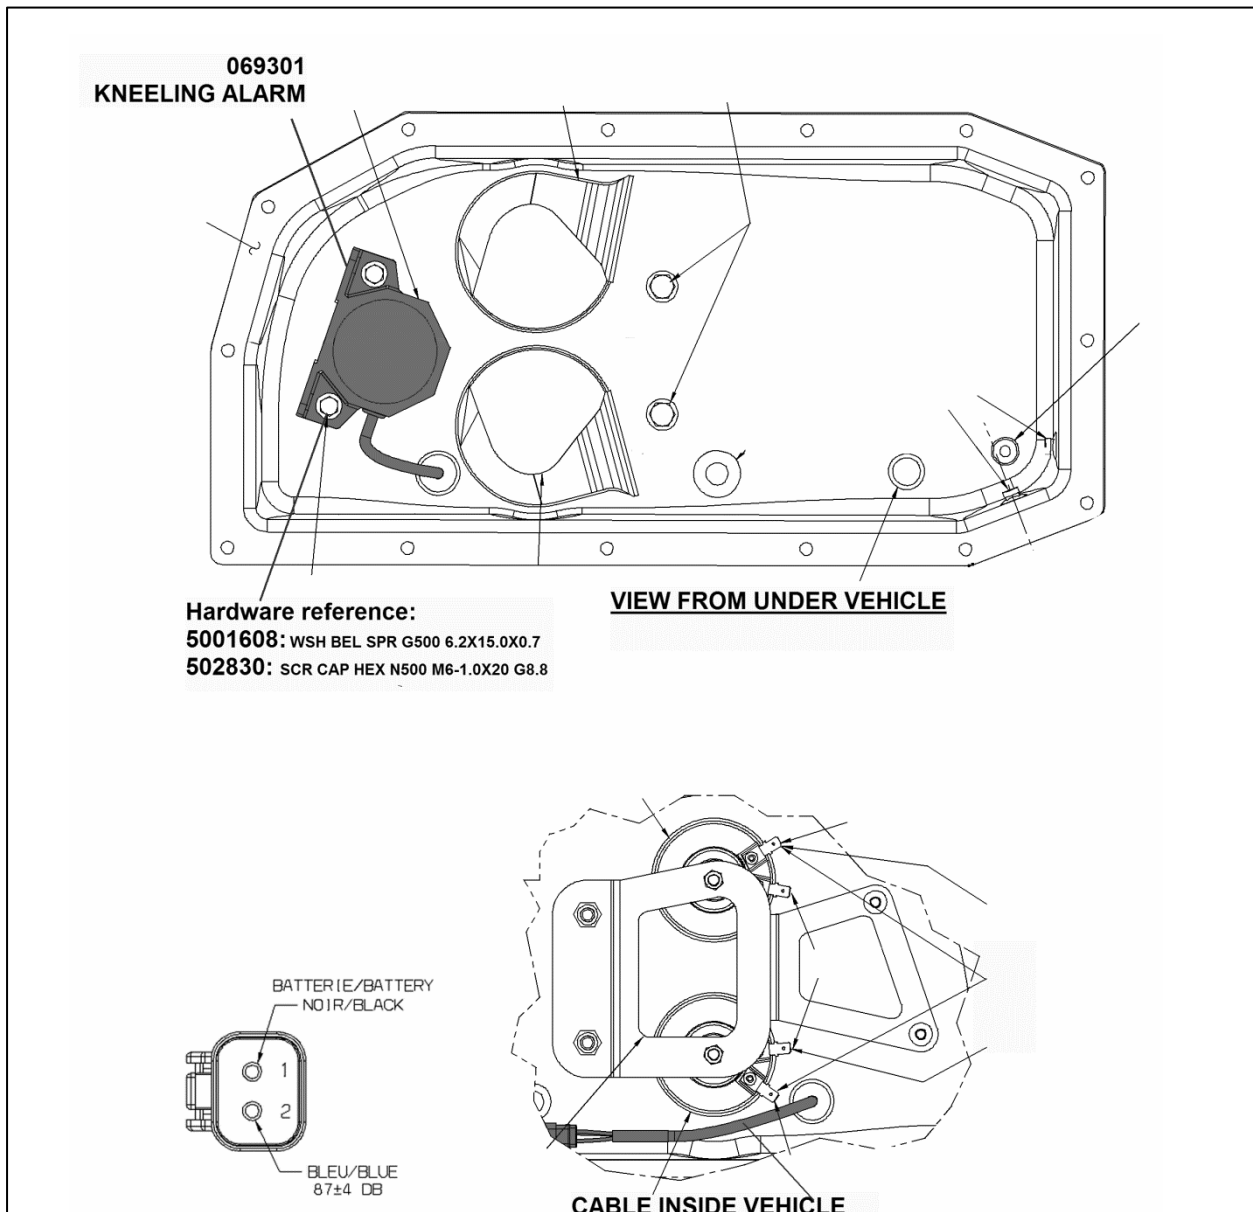

Figure 1
- 3) Replace the kneeling alarm by 069301 (fig. 1). Pass wiring thru floor to inside of vehicle and reconnect. New connection is Blue –Black.